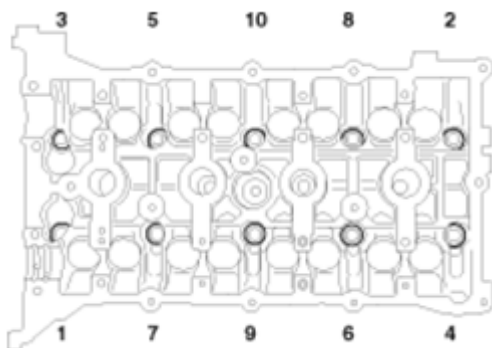

Fig. 23: Identifying Cylinder Head Bolts Removal Sequence
1. Using triple square wrench, uniformly loosen and remove the 10 cylinder head bolts, in several passes, in the sequence shown in **Fig. 23**. Remove the 10 cylinder head bolts and plate washers.